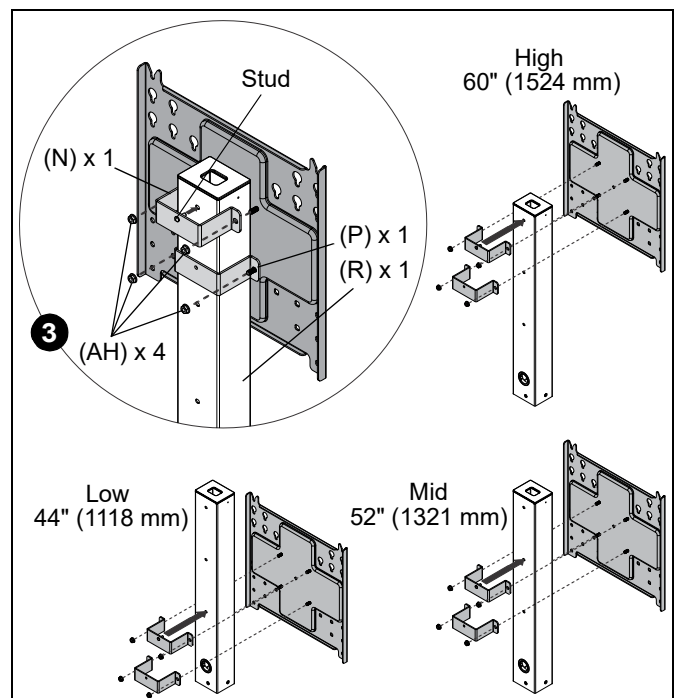

Figure 3
3. Install the face plate assembly (J) to the upper column (R) in one of three positions using one connector - stud (N), one connector - no stud (P), and four 5/16-18 flange nuts (AH). (See Figure 3)
**NOTE:** Position the stud in the upper connector (N) into one of three holes depending on desired position.